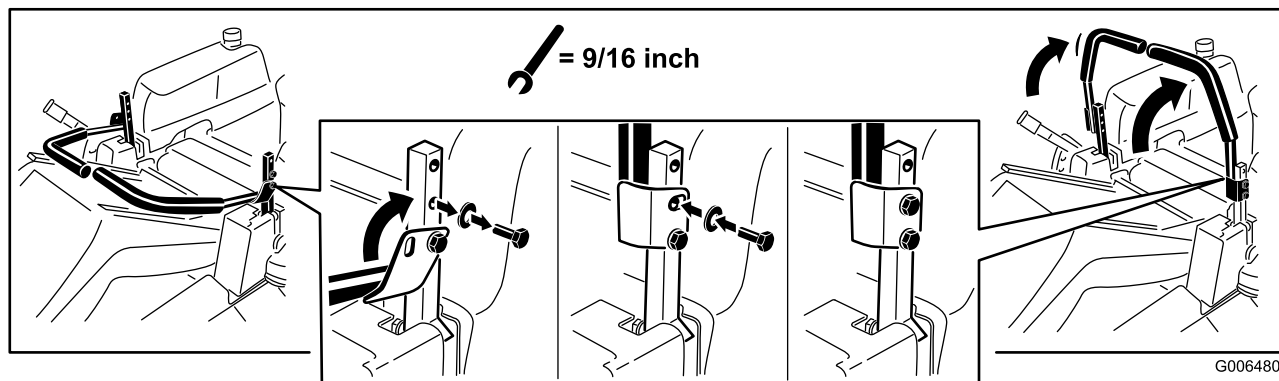

Figure 1
1. Remove the upper bolt (3/8 x 1 inch) and washer; loosen the lower bolt (3/8 x 1 inch) as shown in Figure 1. Raise the motion control levers.
2. Align the holes in the motion control lever with the holes in the control arm shaft and install the bolt and washer removed previously (Figure 1). Hand tighten all fasteners. Repeat this for both controls levers.